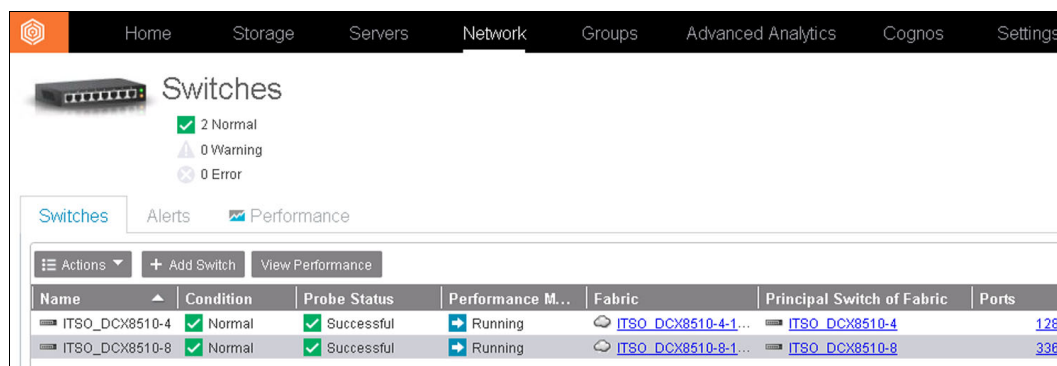

Figure 6-22 Performance monitor status shown as running
6. In the Switches view, the new Performance Monitor Status for your switch should be Running, as shown in Figure 6-22.